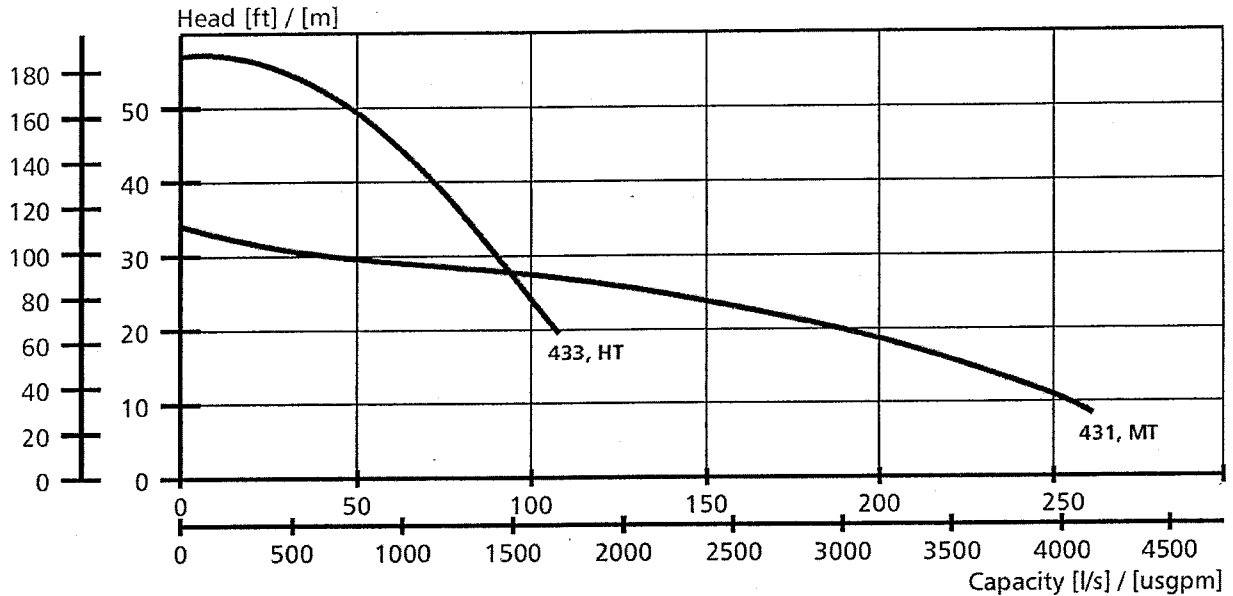

Figure 7.1 Pump characteristics (head and flow rate) for high head (433, HT) and high volume (431, MT) versions.
A mine has chosen to use in-pit pumps in a sinking cut sump to remove water. There are two of the same type of pump available with the characteristic curves shown in Figure 7.1. below. The pumps can be used in high volume (MT) or high head (HT) configuration. The pumps can also be used submersible (with a screen adaptor around the intake) or in series (tandem) with a pipe adaptor at the inlet such that the pump inlet may have a pressure.
7.1.1 From the graph, Fig. 7.1, will the high volume pump configuration (431, MT) be used for both pumps.